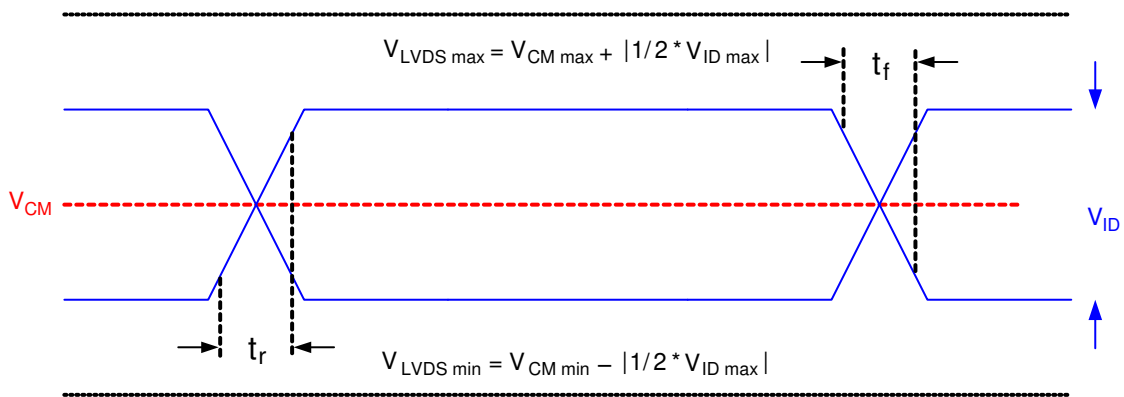

图 6-5. LVDS Waveform Requirements
- (8) See 图 6-5 LVDS Waveform Requirements.
- (9) Simultaneous exposure of the DMD to the maximum 节 6.4 for temperature and UV illumination will reduce device lifetime.